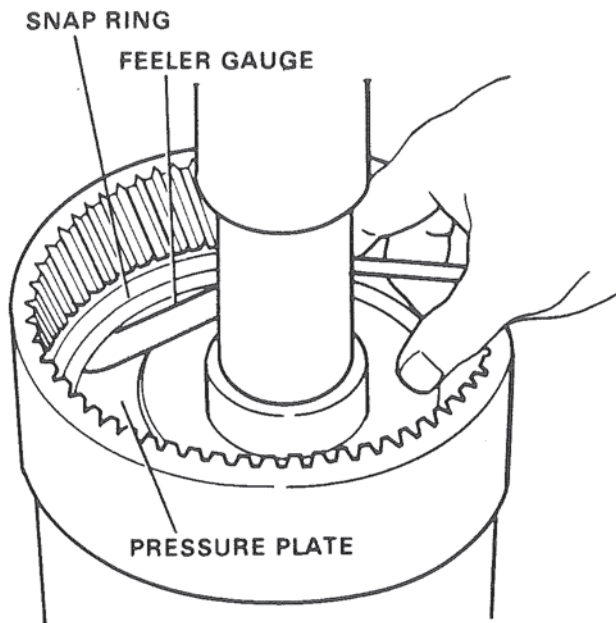

Figure 58. Measuring Gap for Selective Snap Ring.
14. Place the forward clutch and ring gear assembly on an arbor press with the assembly supported on the face of the ring gear. Figure 58.
15. Place a suitable assembly tool in the arbor press to apply force on the clutch pressure plate compressing the clutch plates and clutch pressure plate against the clutch snap ring. The gap between the clutch pressure plate and the shoulder of the snap ring groove in the ring gear can then be measured with a feeler gauge. Figure 58.